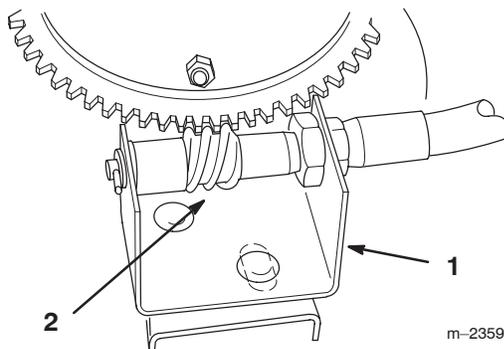

Figure 9
1. Loosen the worm bracket mounting screws (Fig. 9), firmly pushing the worm gear against the teeth in the retaining ring.